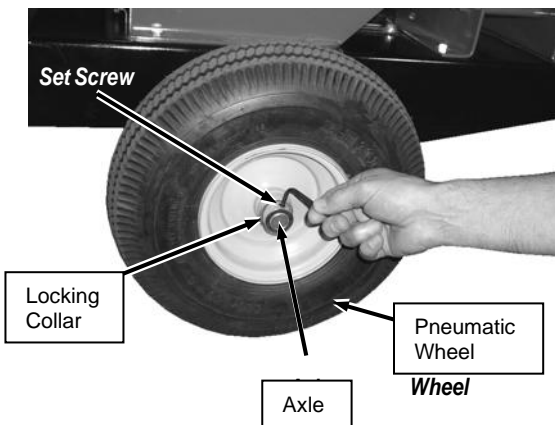

Figure 59
2. Loosen the Set Screw with a 5/32" Allen wrench and remove the Locking Collar (**Figure 59**).